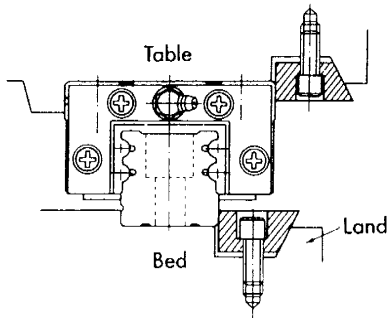

Fig. 53
- Fig. 53; Fasten a tapered block as shown. Note that excessive tightening of the bolts may cause deformation or land warping to the right of the rail, as shown.